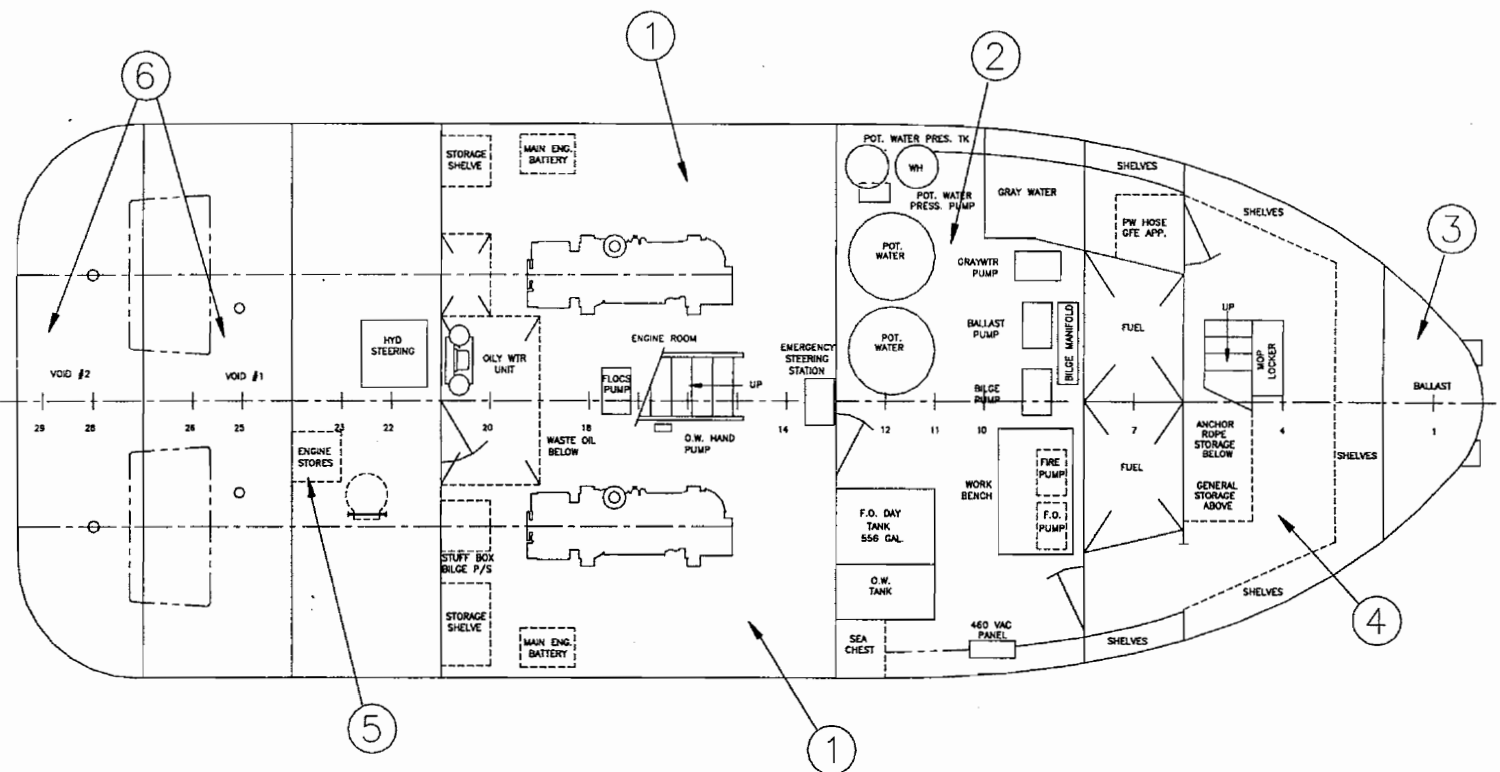
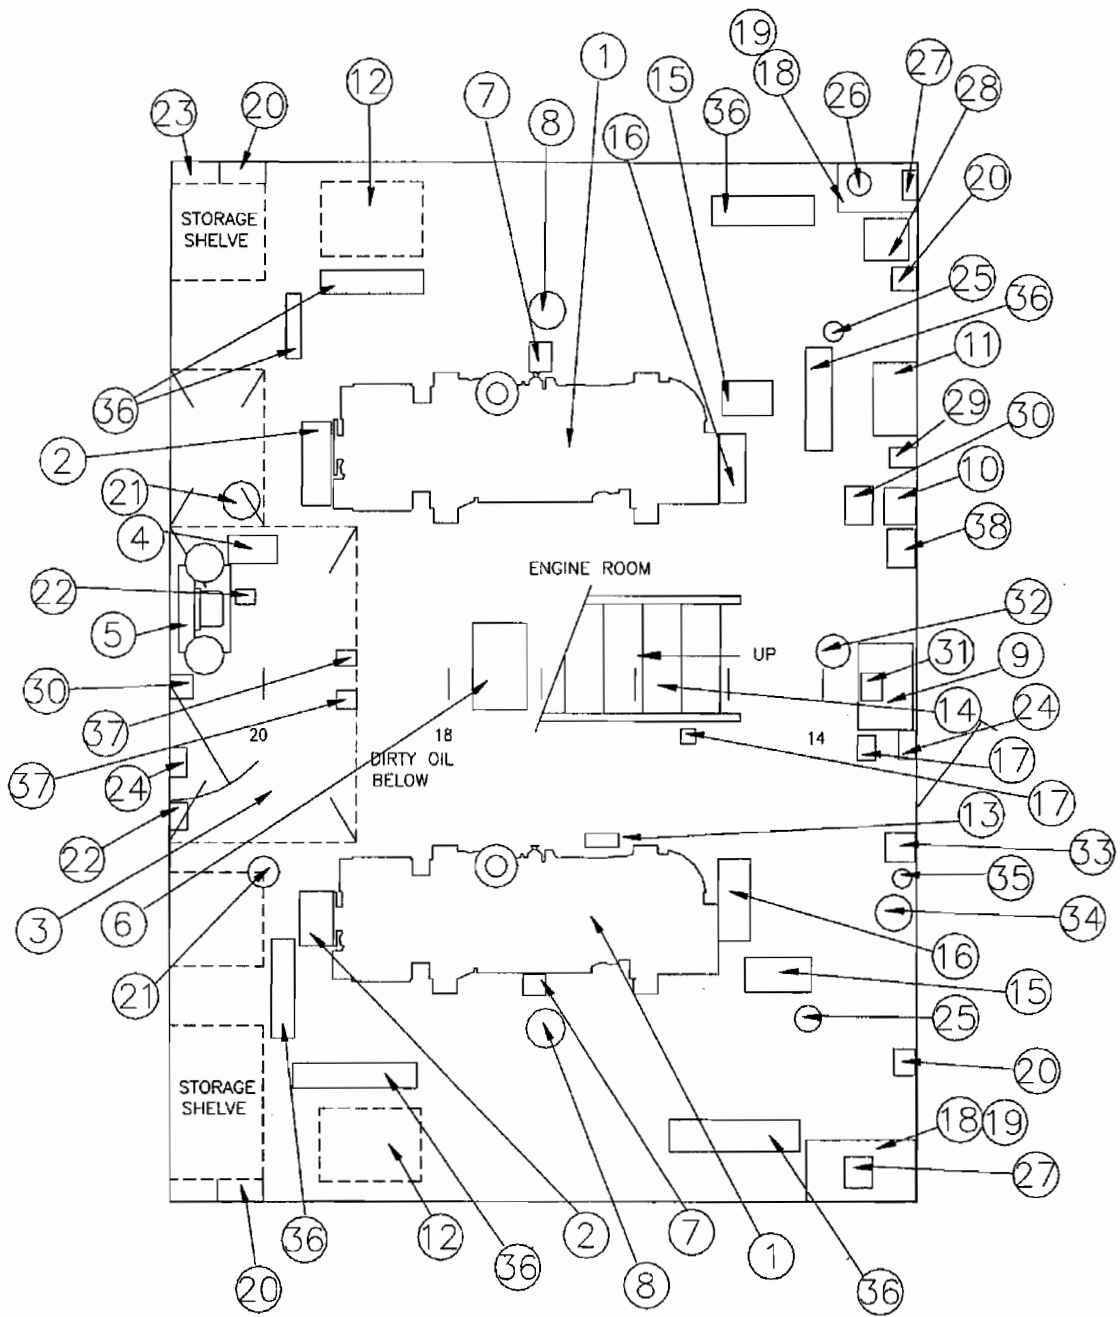
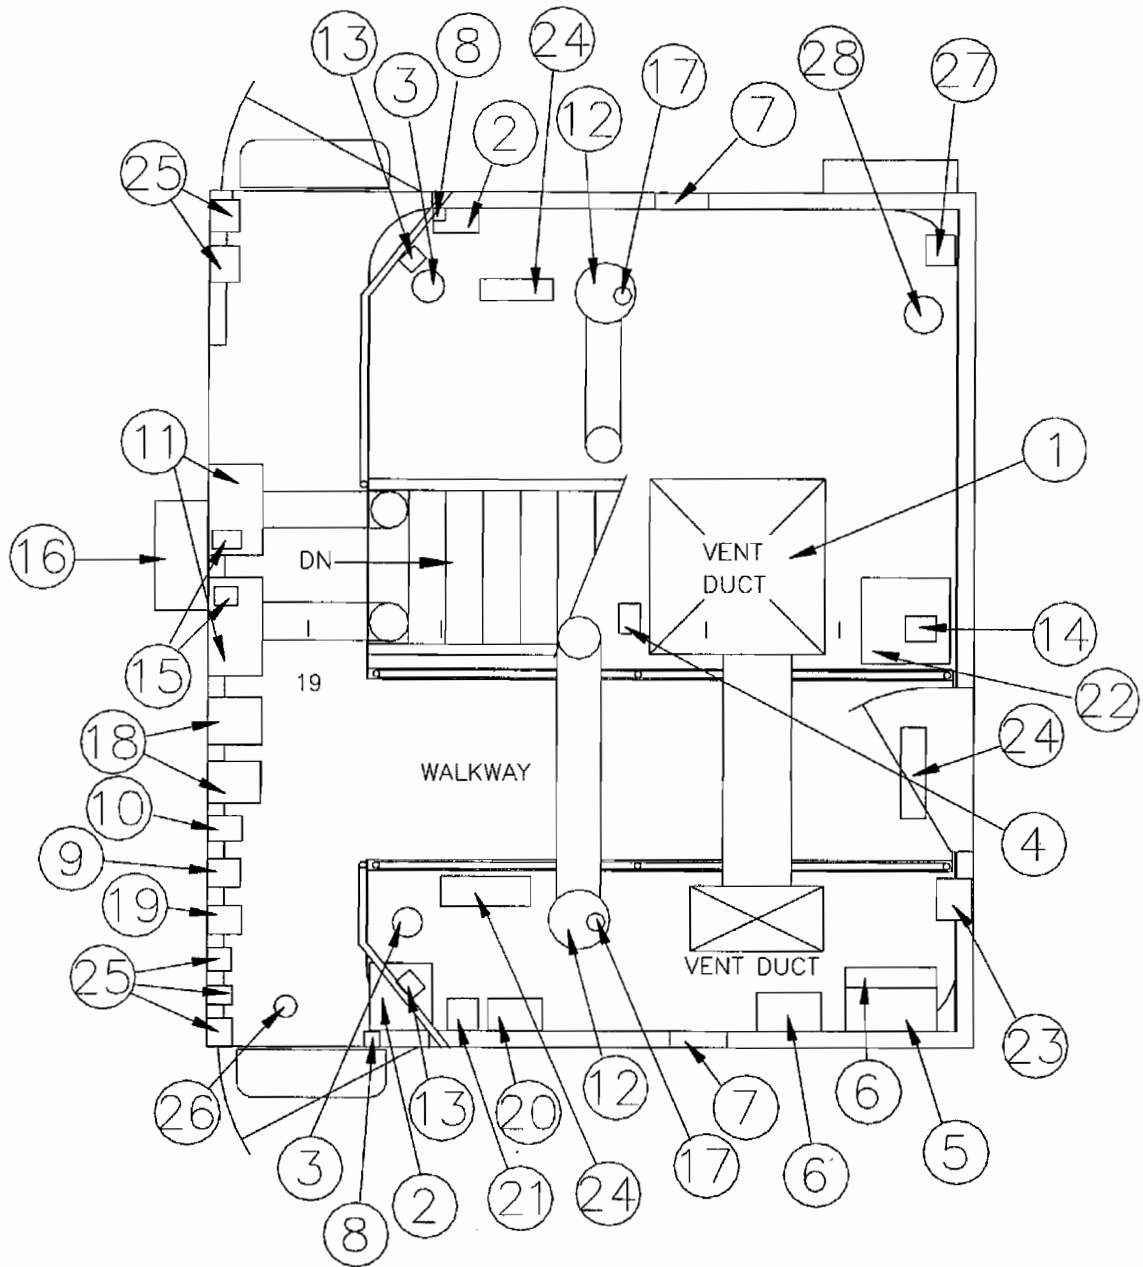
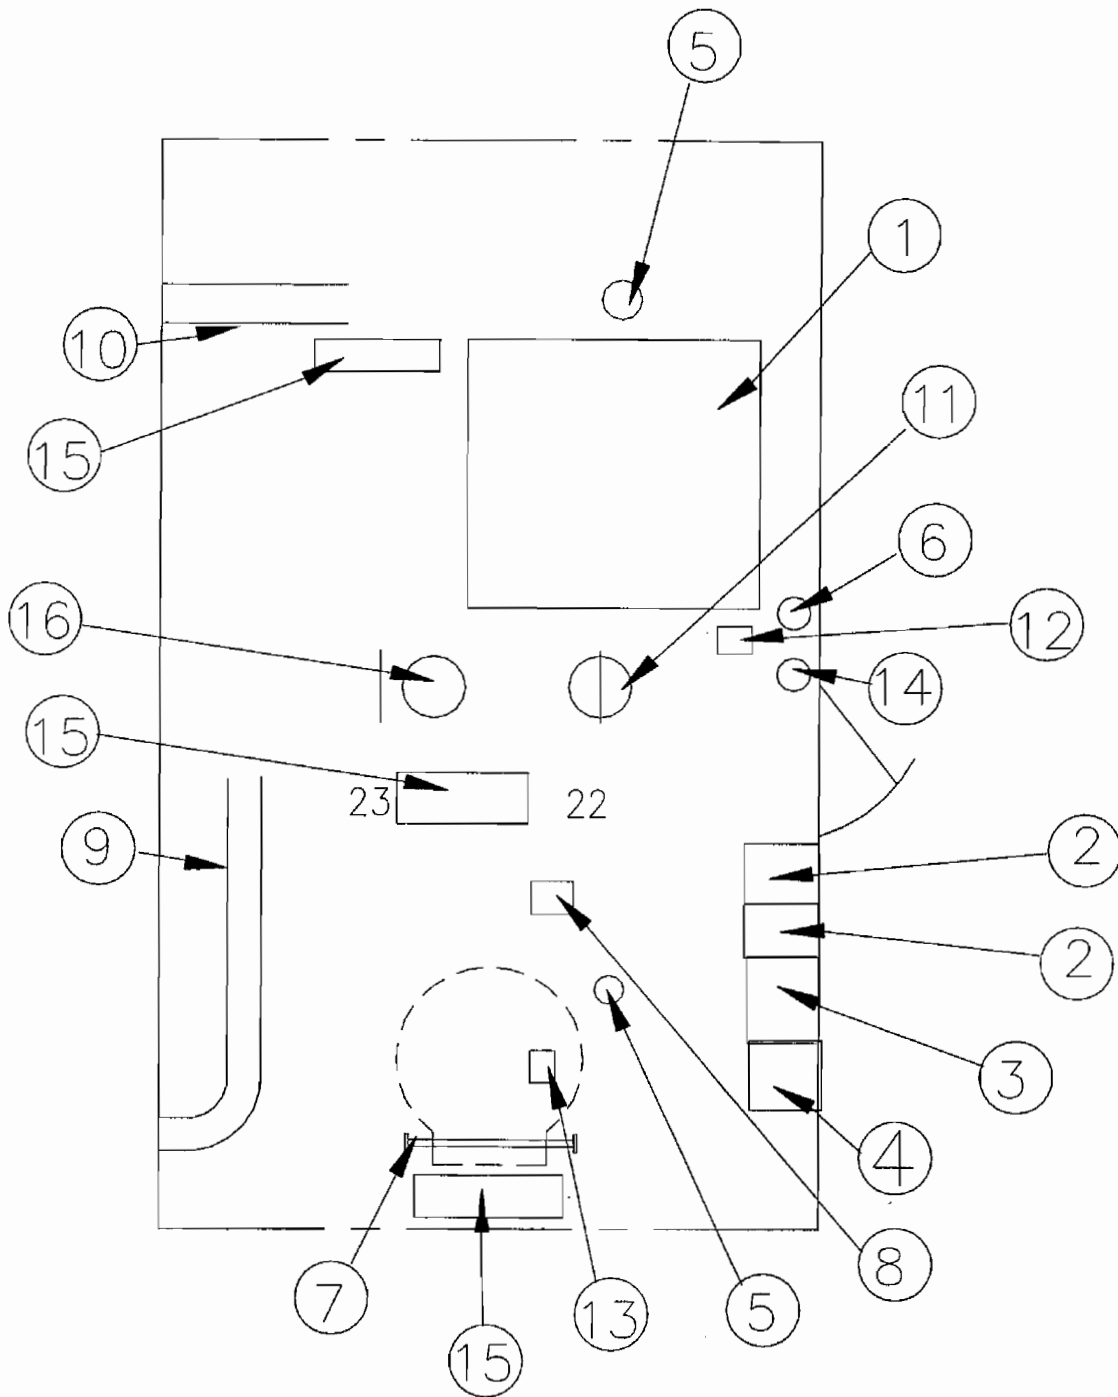

Figure 1-17. Hold Deck
Figure 1-20. Lower Engine Room
Figure 1-21. Upper Engine Room
Figure 1-22. Engine Stores
- 30 AC Receptacles (Item 30). Two (2) AC receptacles are located on the forward bulkhead above the work bench.
- (d) Lower Engine Room (Figure 1-17, Item 1). The Engine Room is located between Frames 13 and 21. Key components and fixtures in the lower Engine Room are depicted in Figure 1-20.
- 36 Fluorescent Lights (Item 36). Seven (7) fluorescent light fixtures are located in the lower engine room. Four (4) fixtures are located overhead on the port side and three (3) fixtures are located overhead on the starboard side.
- 37 Battery Chargers (Item 37). Two (2) battery chargers are located in the lower engine room centerline under the stairs.
- (e) Upper Engine Room (Figure 1-17, Item 1). The components of the upper Engine Room are outlined below and depicted in Figure 1-21.
- (f) Engine Stores Compartment (Figure 1-17, Item 5). The engine stores compartment is located aft of the Engine Room. The main components of this room are depicted in Figure 1-22 and are identified below.
- 15 Fluorescent Light Fixtures (Item 15). Three (3) fluorescent light fixtures are located overhead.
- (g) VOIDS (Figure 1-17, Item 6). Two voids are located aft of the engine stores compartment. Void #1 is located between Frames 24 and 27. Void #2 is located between Frames 27 and 29.